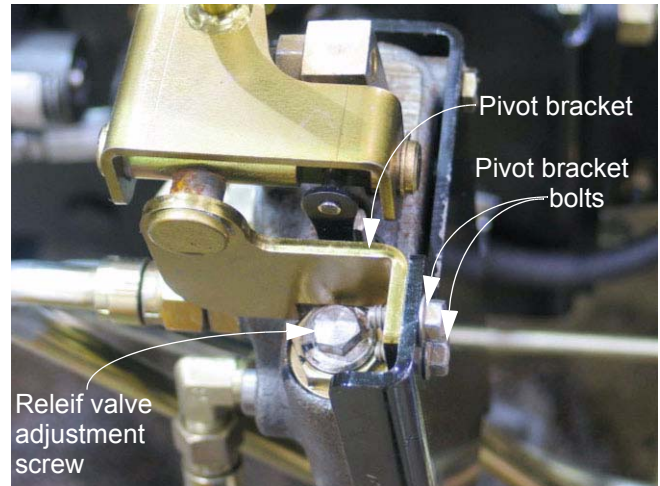

Figure 10.10
- 10.10. It is necessary to unbolt the pivot bracket assembly from the loader valve in order to get a wrench on the relief valve adjustment screw. The pivot bracket can be unbolted using a 3/8" wrench. See Figure 10.10.